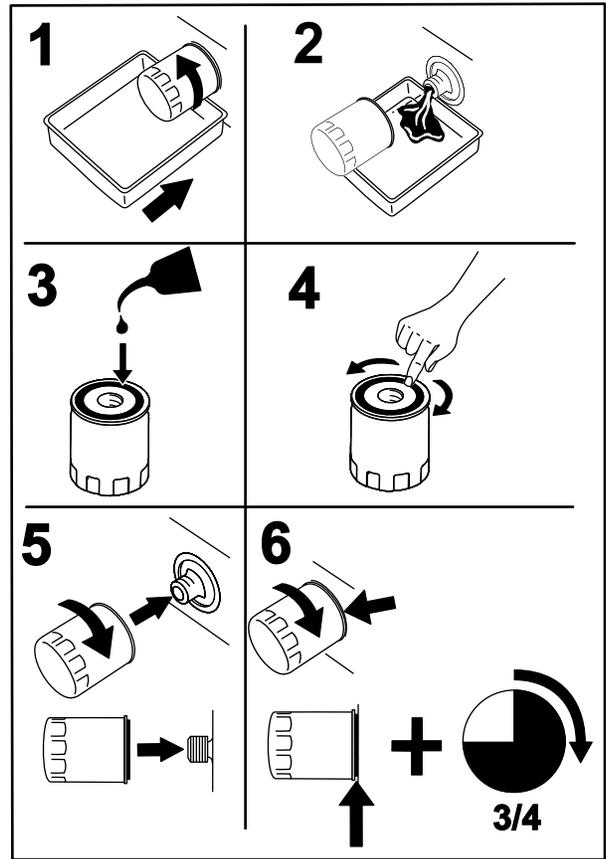

Figure 53
- Change the engine-oil filter (Figure 53).